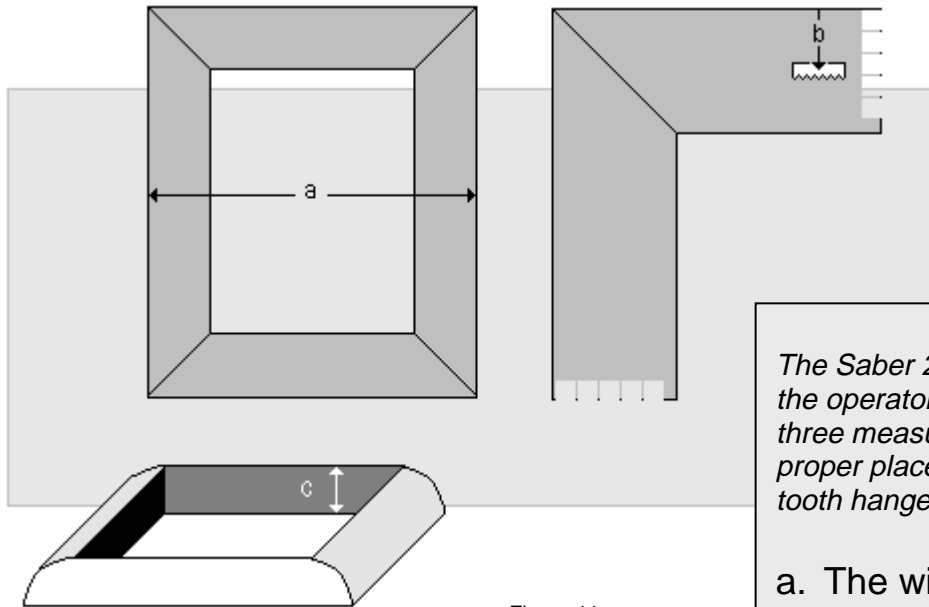

Figure 11
- i. Measure the width from outside the left edge to outside the right edge of the frame. (measurement "a" in Figure 11)
- i. Measure or approximate the distance between the top edge of the frame and the point at which you wish to insert the hanger. (measurement "b" in Figure 11)
- i. With the frame laying flat on a surface, determine its height at its thickest cross-section. (measurement "c" in Figure 11)
- vi. The Carriage will lock into any one of six (6) pre-set positions that correspond to a range of heights.